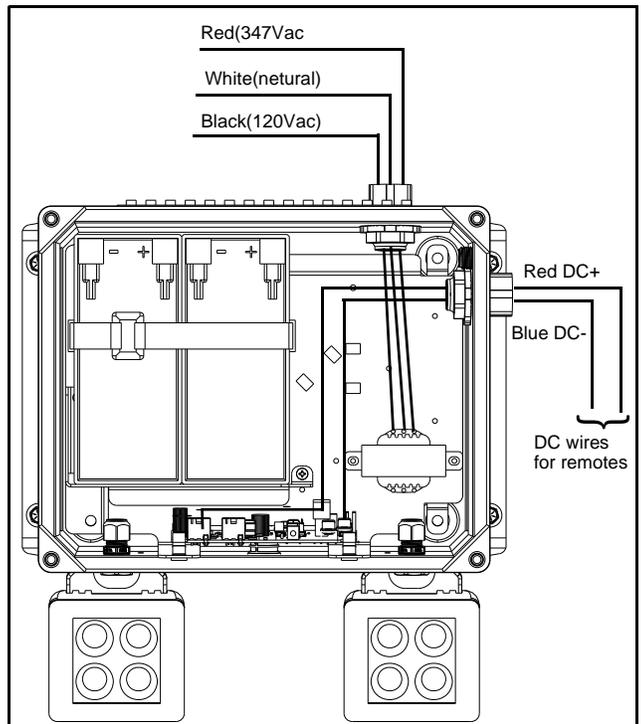

Figure 3
- a. Standard unit: connect the transformer primary wires to the utility: white wire to neutral; black (120Vac) or red (347Vac) to line voltage (See figure 3).
- Remote emergency lighting (option): connect the remote DC wires to the terminals of lamp circuit (Figure 3).